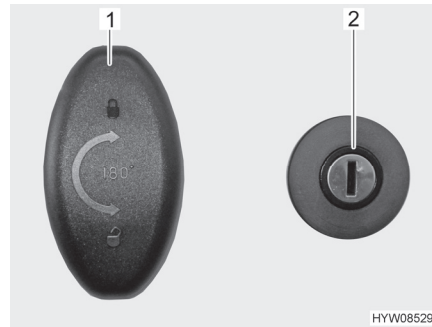

Fig. 55 Door lock (garage door)
- Put the key in the locking cylinder (Fig. 55,2) and turn in a clockwise direction. The central locking system is unlocked.
- Turn the lock handle (Fig. 55,1) through half a rotation in a clockwise direction and open the garage door.
- Turn lock handle (Fig. 55,1) one half turn in an anticlockwise direction.
- Insert the key in the locking cylinder (Fig. 55,2) and turn it in an anti-clockwise direction. The central locking system is locked.